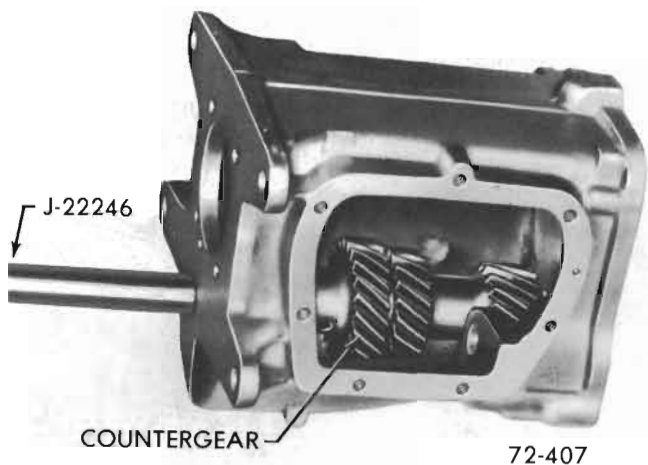

Figure 72-44 - Removing Countergear With Tool J-22246
15. From front of case, tap out countershaft, using countershaft alignment tool J-22246 as shown in Figure 72-44. Remove the countershaft and both tanged washers.